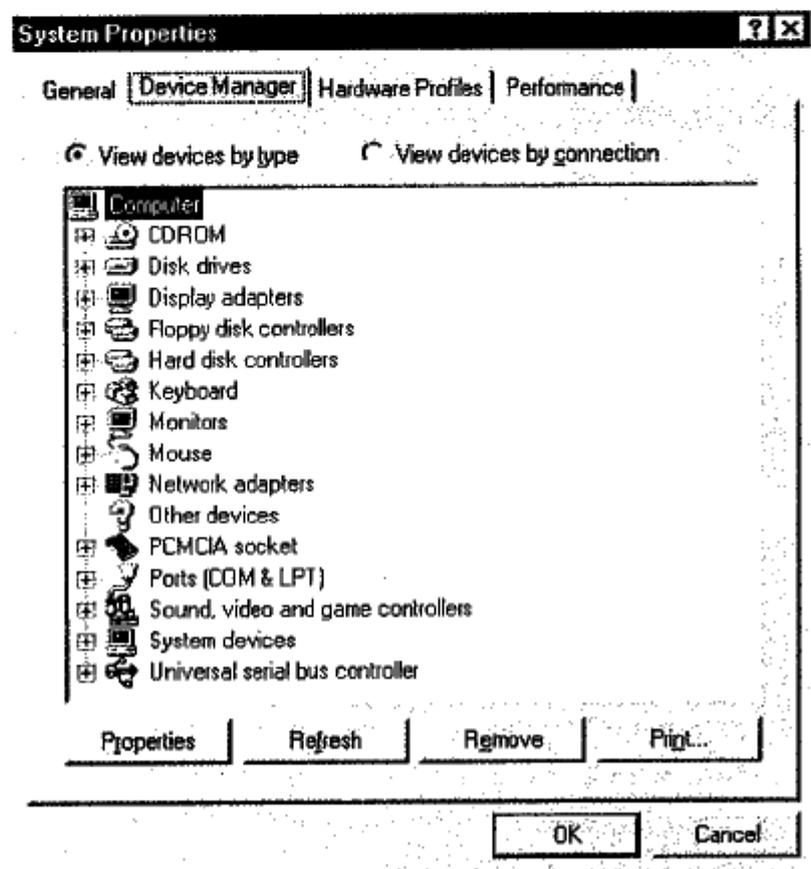

Figure 3-33
2. In the "Control Panel" window, double-click "System" icon, then select "Device Manager" as shown in Figure 3-33.